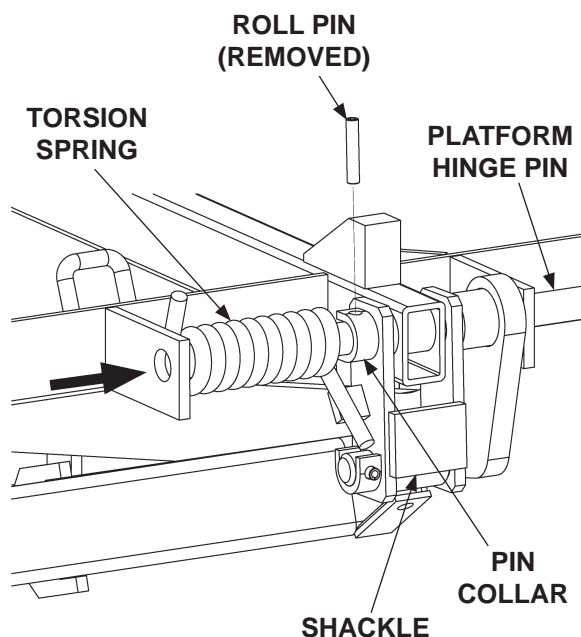

FIG. 21-1
4. Drive out the roll pin from pin collar on the platform hinge bracket. Drive the platform hinge pin outboard from the shackle just enough to free the torsion spring (**FIG. 21-1**). Remove torsion spring.